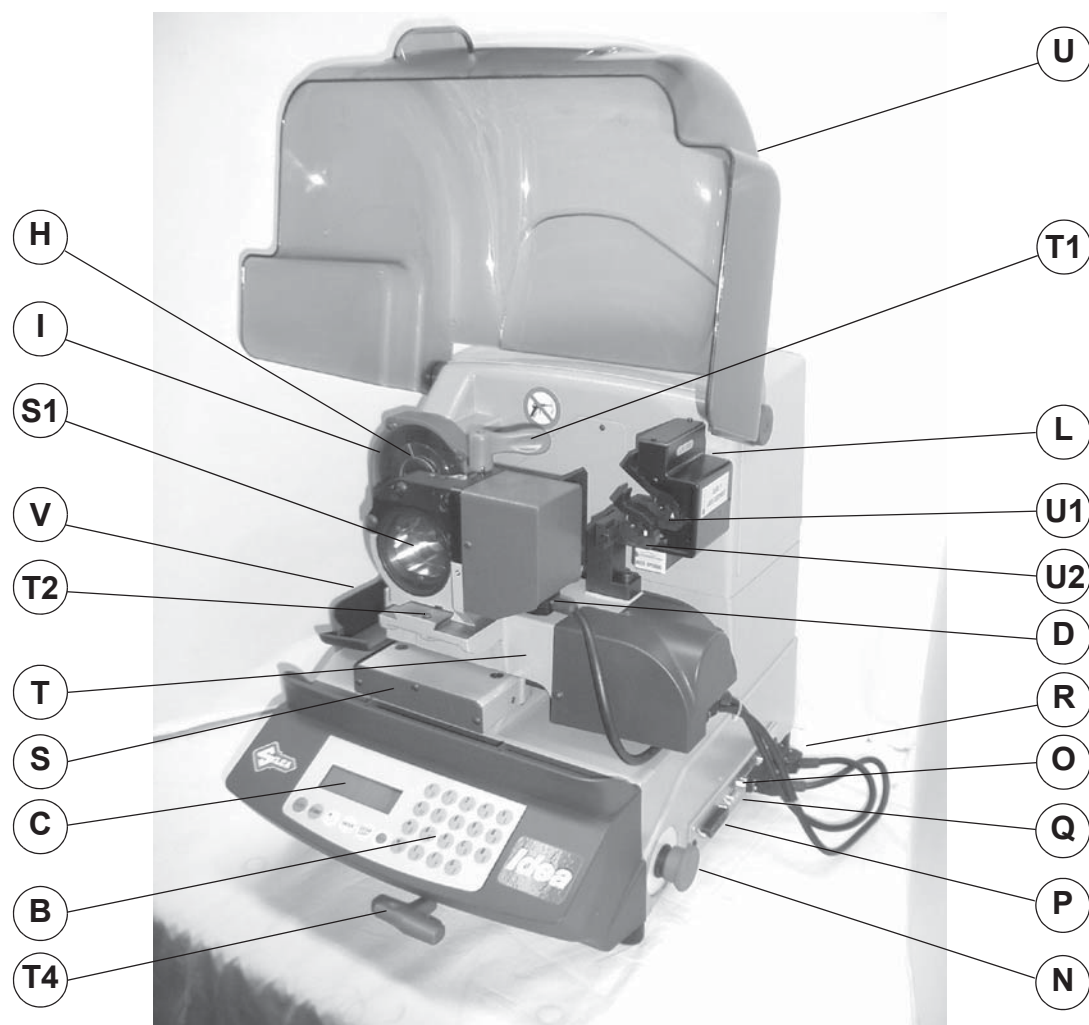

Fig. 10
The shield (U) (fig. 10, page 8) must be raised in order to fit keys for cutting or carry out other operations. Raising of the shield is controlled by a microswitch and disactivates the operating and movement functions, including the cutter. A special message appears on the display to warn that the shield is not closed.
The red emergency button (N) (fig. 10, page 8) placed on the right-hand side of the machine is used to stop it immediately in the event of faulty operation or danger for the operator.
The special holder for the “T” wrench (T4), on the front of the machine below keyboard (fig. 10) prevents damage to the machine caused by inadvertently leaving the wrench on the rotating clamp or the tailstock.